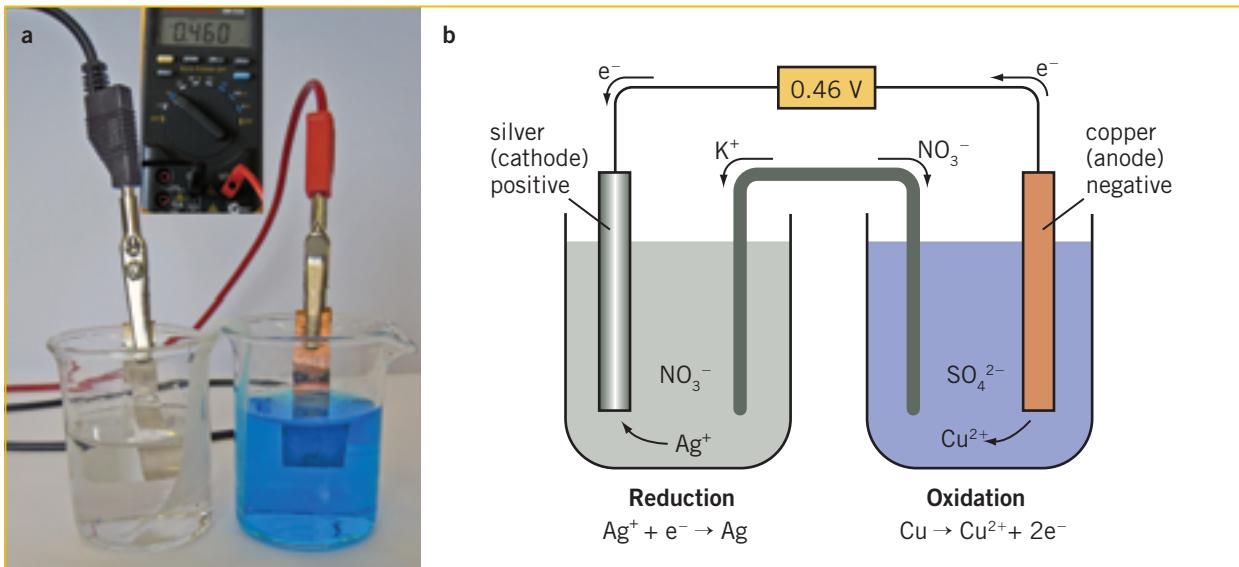

Figure 9.7 (a) An electrochemical cell involving copper and silver ions. (b) Schematic representation of the changes in the electrochemical cell
To produce the energy of the exothermic redox reaction as electrical energy it is necessary to construct an electrochemical or galvanic cell. This cell transfers the electrons through a wire (known as the external circuit) from the reductant to the oxidant, rather than allowing the reactants to come into direct contact with one another. In Figure 9.7 an electrochemical cell that converts chemical potential energy of the reacting copper and silver ions into electrical energy is shown.
- 3 Account for the observation that a piece of copper placed in a beaker with a solution of sodium sulfate, connected by a salt bridge to a solution of silver nitrate in another beaker containing a piece of graphite, will produce electrical energy in the same way as the cell depicted in Figure 9.7. (Assume the copper and graphite are connected by a wire in the external circuit.)
In the copper/silver ion electrochemical cell in Figure 9.7 a voltmeter is shown measuring the cell potential (voltage). The reading on the meter is about 0.46 V. The cell potential of an electrochemical cell is given the symbol E_{cell} (E is the symbol used for electric potential).